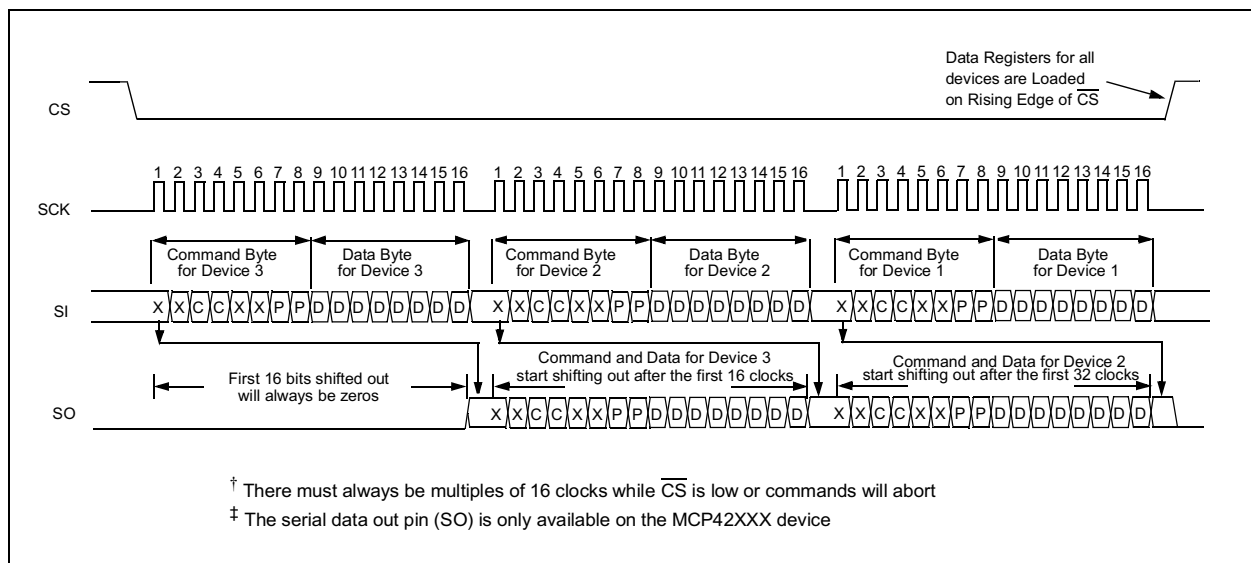
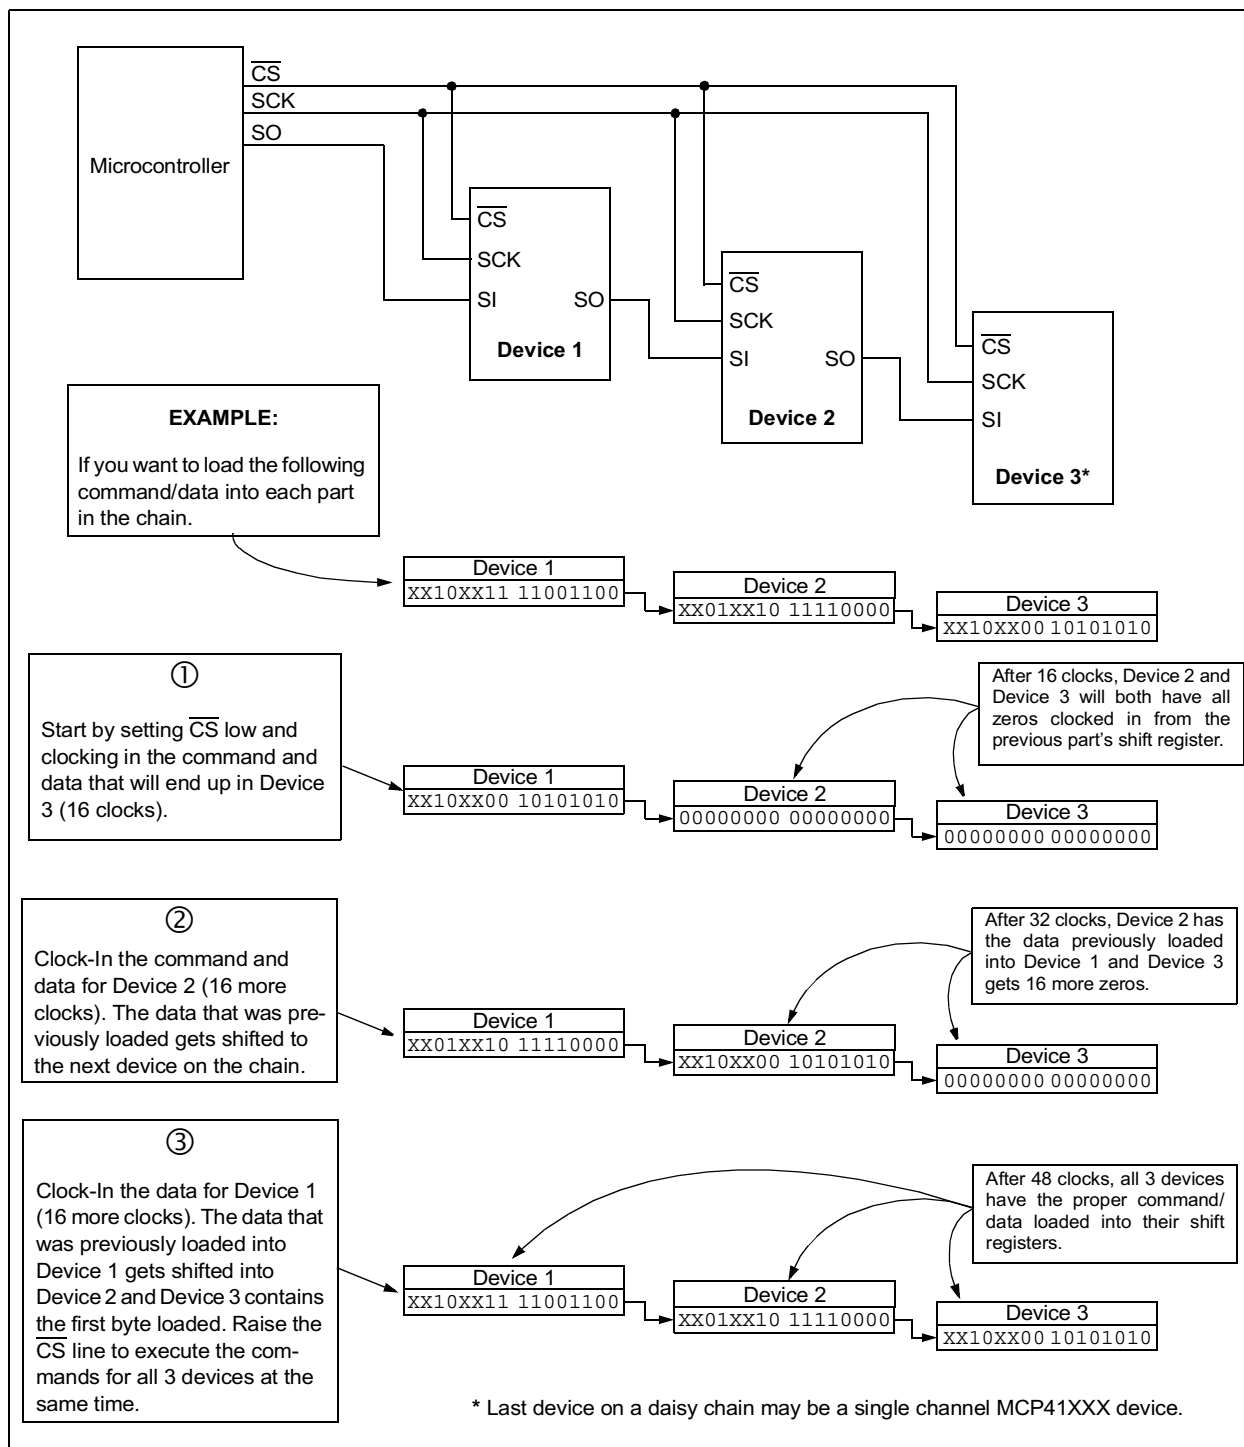

Figure 5-3: Timing Diagram for Daisy-Chain Configuration
Figure 5-4: Daisy-Chain Configuration
Multiple MCP42XXX devices can be connected in a daisy-chain configuration as shown in Figure 5-4, by connecting the SO pin from one device to the SI pin on the next device. The data on the SO pin is the output of the 16-bit shift register. The daisy-chain configuration allows the system designer to communicate with several devices without using a separate CS line for each device. The example shows a daisy chain configuration with three devices, although any number of devices (with or without the same resistor values) can be configured this way. While it is not possible to use a MCP41XXX at the beginning or middle of a daisy-chain because it does not provide the serial data out (SO) pin, it is possible to use the device at the end of a chain. As shown in the timing diagram in Figure 5-3, data will be clocked out of the SO pin on the falling edge of the clock. The SO pin has a CMOS push-pull output and will drive low when \overline{CS} goes high. SO **will not** go to a high impedance state when \overline{CS} is held high.